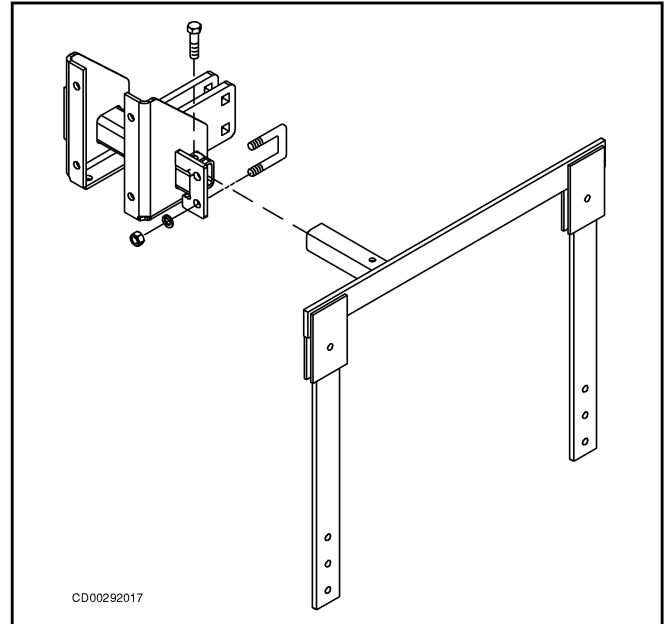

Figure 42 Fastening Mount Assembly
2. Install lock pin and U-bolt as shown in Figure 42.